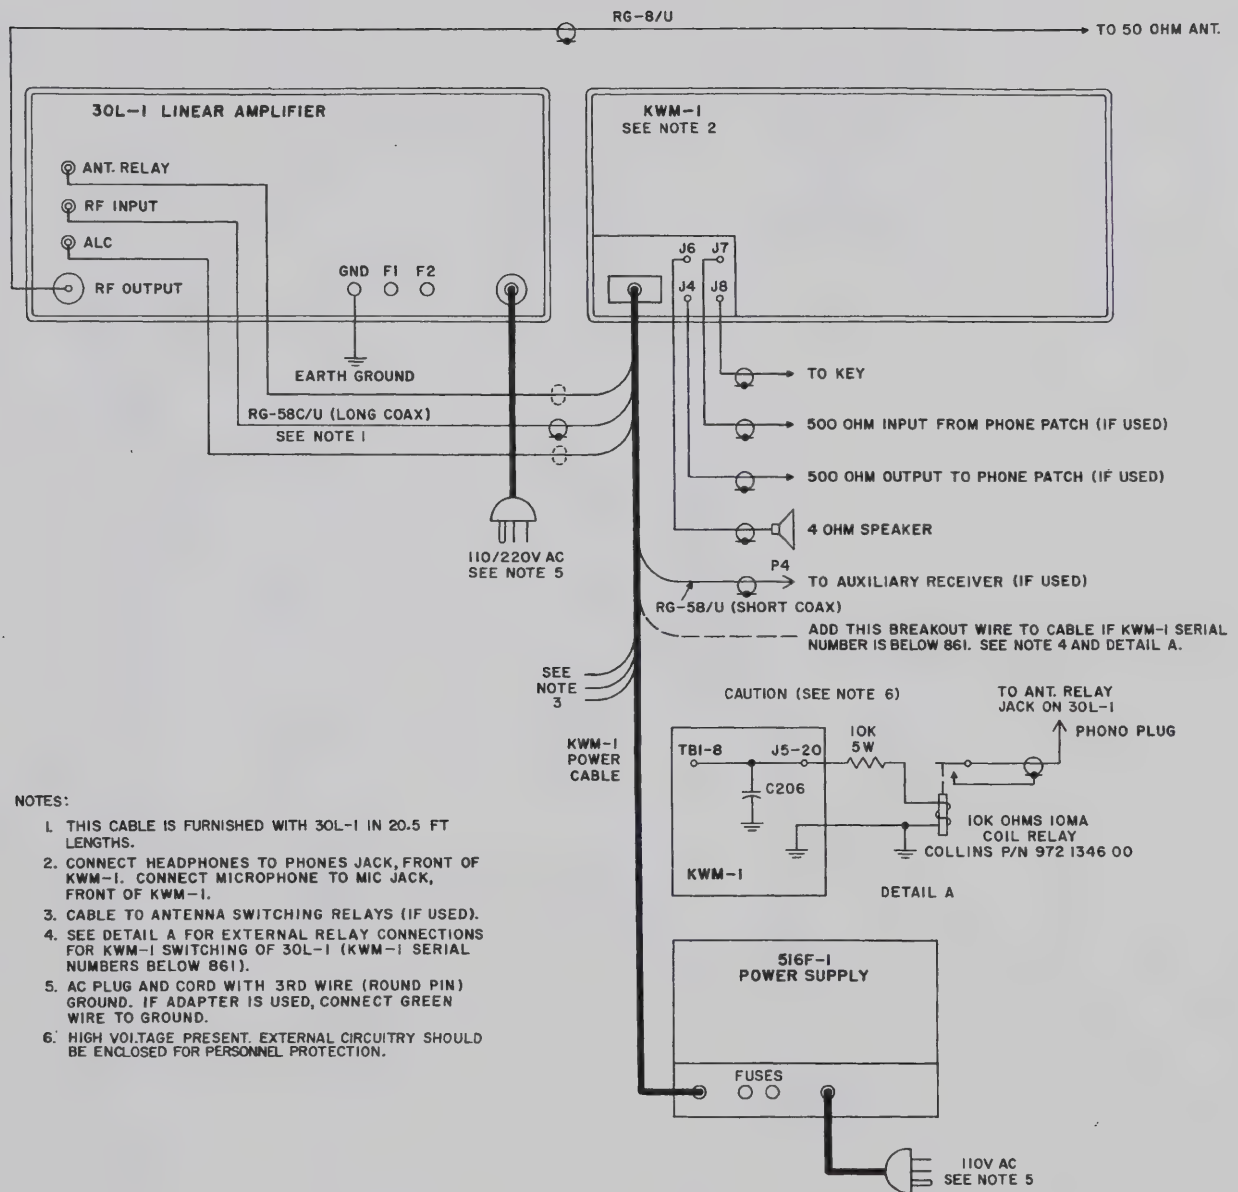

Figure 1-3. Interconnections with KWM-1
If KWM-1 models above serial number 861 are used with the 30L-1, it will be necessary to bring out alc and "ground-on-transmit" connections from the 516F-1 power cable plug, P-1, as shown in figure 1-3. Make the alc connection to terminal 19, and the "ground-on-transmit" connection to terminal 20. Use a shielded wire, and connect to 30L-1 ALC and ANT. RELAY jacks with phono plugs.
- f. Refer to figure 1-3, Detail A. External to the KWM-1, connect a 10,000-ohm, 5-watt resistor and a relay coil in series from J5 terminal 20 to a ground on the rear of the KWM-1 chassis. Use a relay, such as Collins part number 972-1346-00, with a 10,000-ohm, 10-ma coil, and a set of normally open contacts.